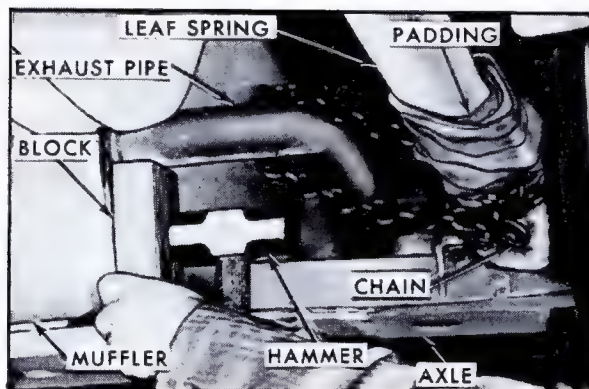

Fig. 8-11 Eldorado Muffler Removal
7. Secure right exhaust pipe to leaf spring in such a manner that system cannot shift to the left, Fig. 8-11.